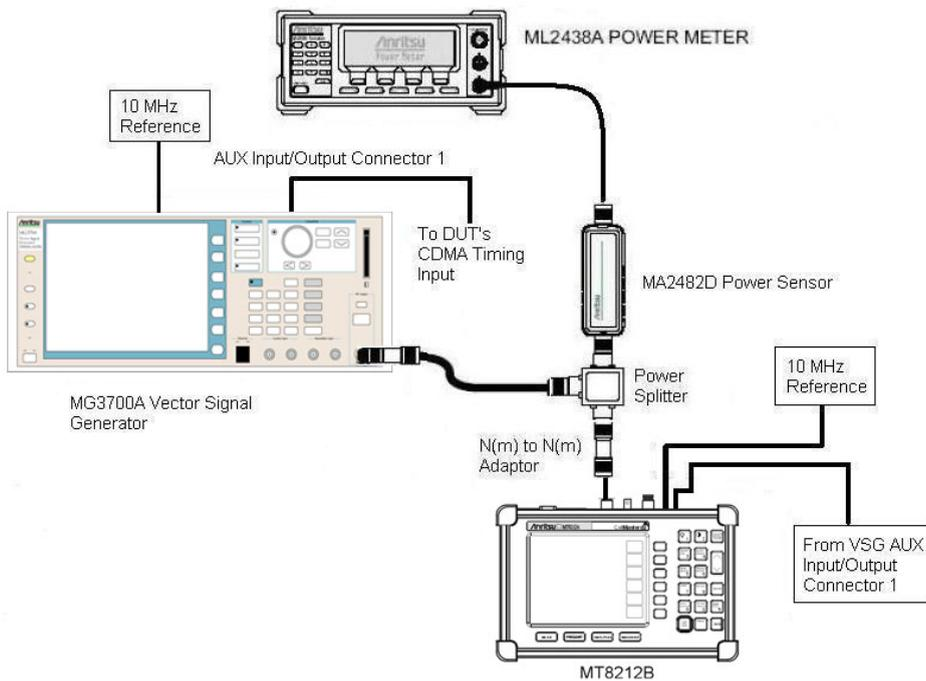

Figure 2-9. CDMA Signal Analyzer Setup
1. Connect the equipment as shown in Figure 2-9. Ensure that the external 10MHz reference is connected to both the 10 MHz Ref input of the MG3700A and the Ext Freq Ref input of the MT8212B.